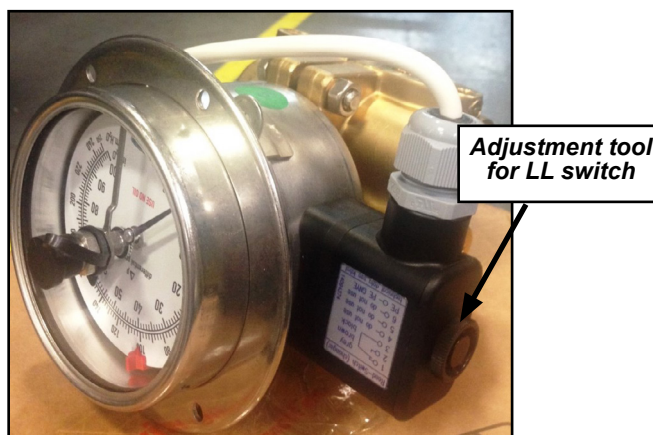

Figure 18 - LL switch adjustment tool
- To adjust the alarm set point, use the adjustment tool found on the electrical connection of the switch, push in and turn the alarm switch indicator to the appropriate inches level (see Figure 18).